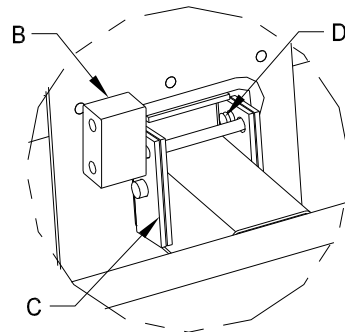
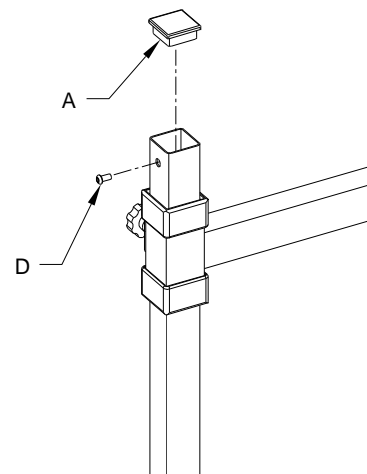

Figure 2
Figure 3
6. Position the Plasma Mount on the Top Assembly. Secure Plasma Mount by installing two Lock Plates and securing with screws. See Figure 2.
9. Install tube enclosures. See Figure 3.
10. For security, install padlock on Top Assembly. See Figure 2. Install screws into the top of the Columns. See Figure 3.